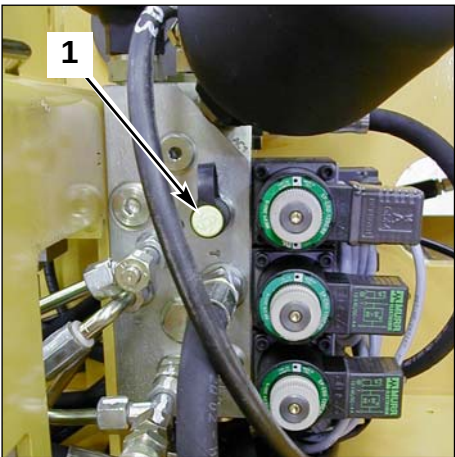

Fig. 1 Assistance pressure unit
- 2- Measure the pressure on the assistance pressure unit (1 fig. 1) using the manometer.